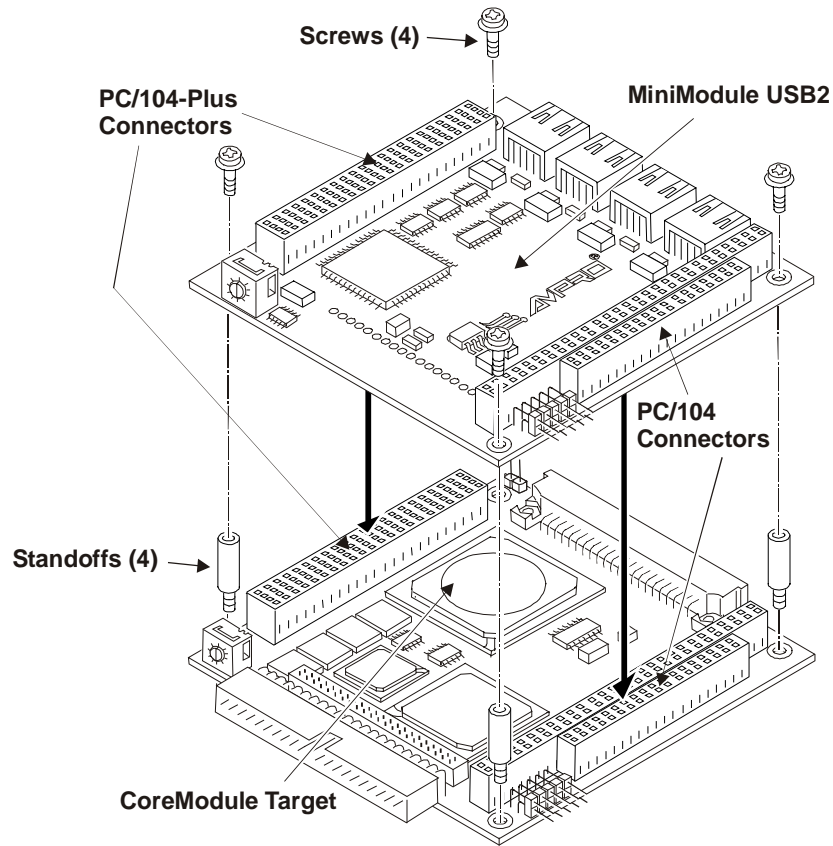

Figure 2-4. Installing MiniModule USB2 on CoreModule Target
13) Install the spacers on the target board	<ul style="list-style-type: none"> <li>Install the threaded spacers onto the target board at the four corners of the MiniModule board. See Figures 2-4 and 2-5.</li> </ul>